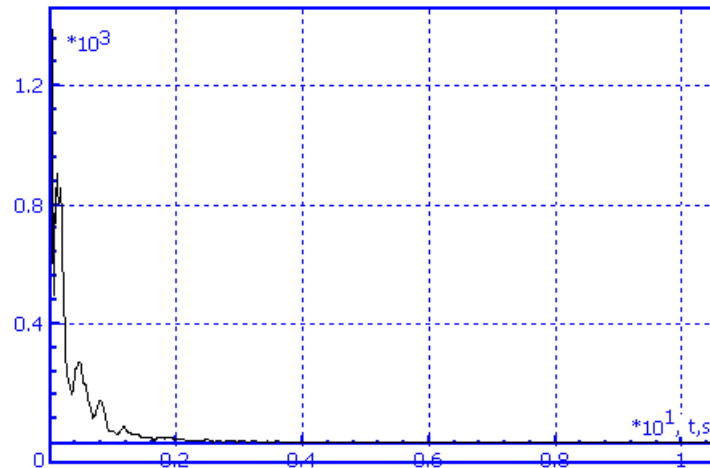

Fig. 42 Plot: kinetic energy vs. time
- 3) Run the simulation by the **Integration** button in the bottom of the inspector. In our test the energy value decreases to the value lower than 1 J after 7 seconds of simulation, Fig. 42, i.e. the TV is nearly the equilibrium.